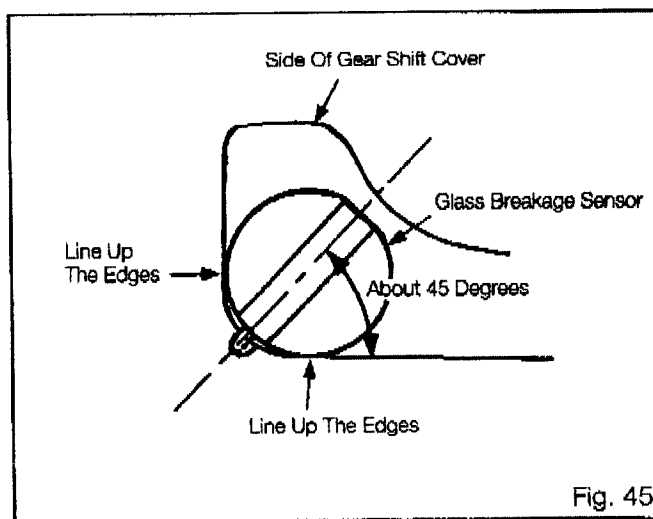

Fig. 45
- (2) Peel the protective backing off the Glass Breakage Sensor, then mount the sensor on the side of the gear shift cover as shown. Fig 45